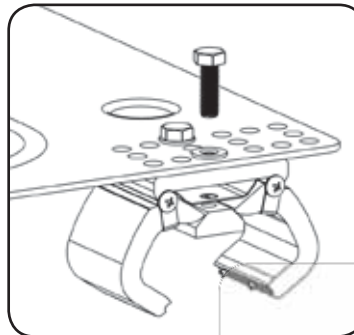

Fig. 5a
1. Once standing seam spacing has been determined, attach one clamp assembly to each of the four corners of the base as shown in Fig. 5a. Install each bolt completely through the washer and base mounting hole and into the corresponding hole in the clamp assembly bar. Do not tighten until the base is set on the standing seam roof.